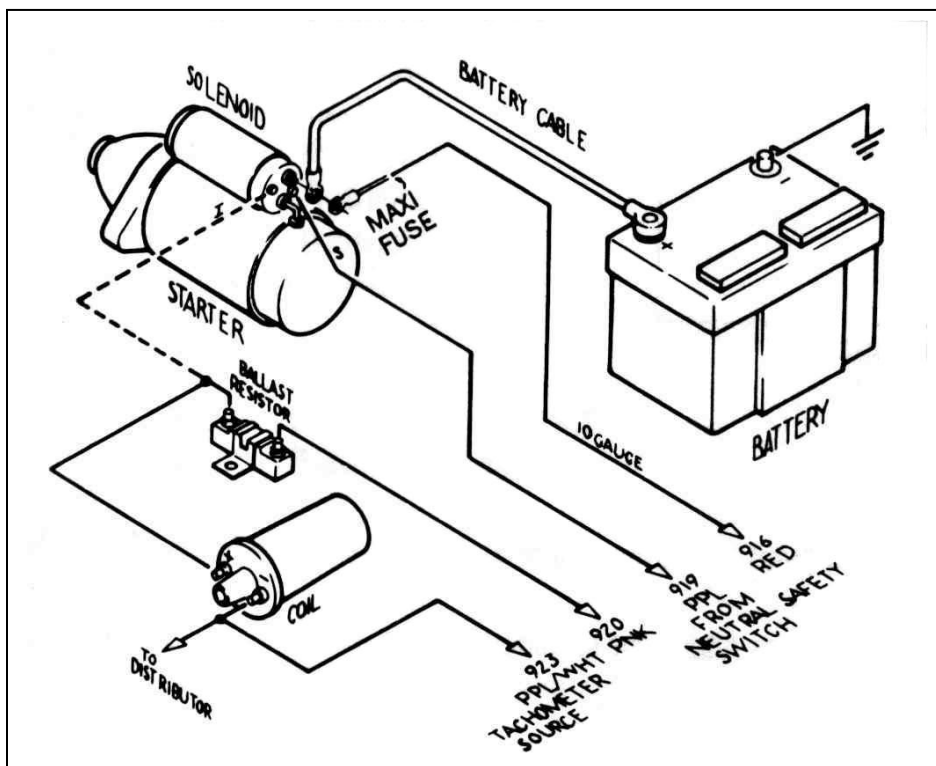

Figure 7.4 GM Ignition (Start/Run) System
7.4 GM Ignition (Start/Run) System. See Figure 7.4
- 7.4.6** A 14-gauge wire connected from the starter solenoid (I) terminal to the ignition coil side of the ballast resistor is optional. This wire (the dashed line in **Figure 7.4**) serves as a ballast resistor BYPASS during engine starting. However, if the starter solenoid shorts out, which is not unusual, the engine will stop running and will not restart as long as this wire is connected. You may therefore choose to omit it. If you are not using a ballast resistor, leave the starter solenoid ignition (I) terminal unconnected and do not install the bypass wire.